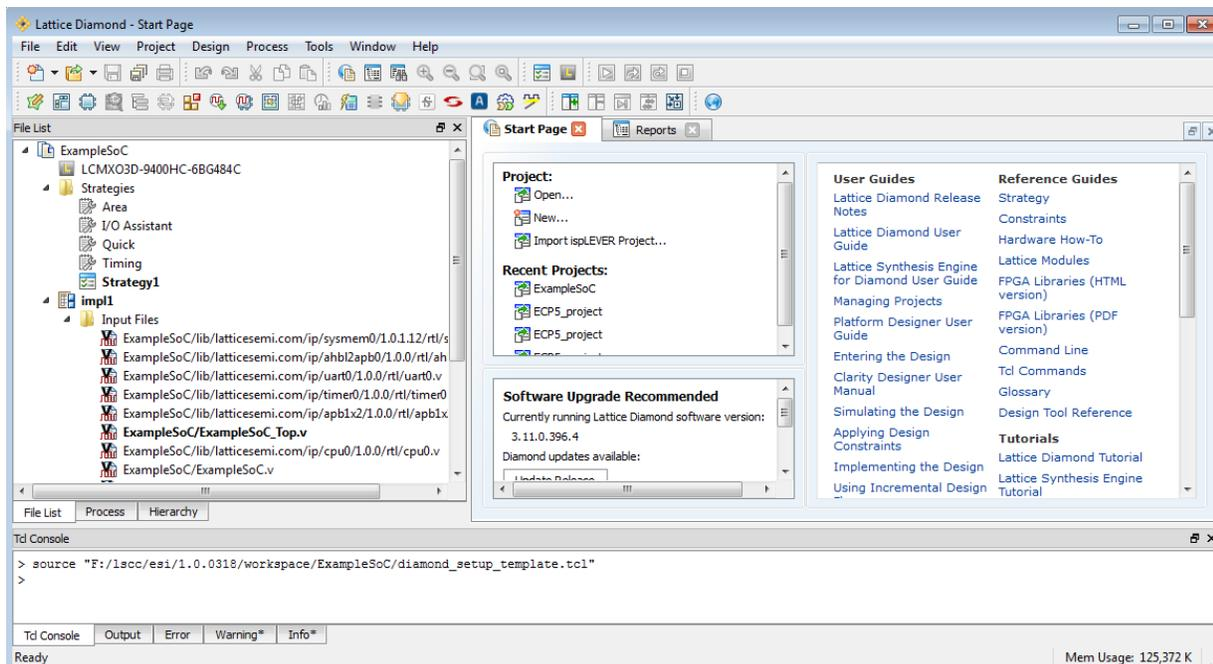

Figure 3.7. Diamond Project
- Diamond project for SoC is generated at background and is launched (Figure 3.7).